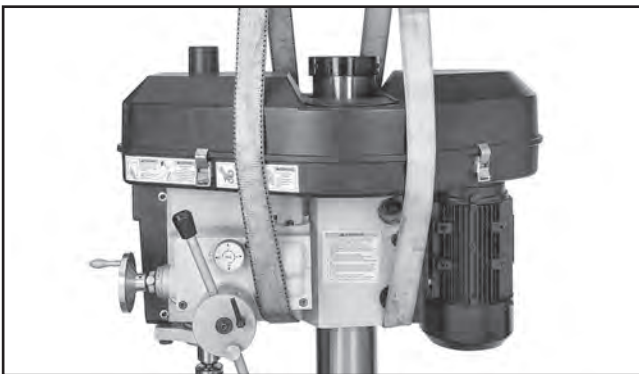

Figure 10. Lifting slings properly wrapped around headstock and positioned to avoid damage to belt cover while lifting.
2. Remove top portion of crate from the shipping pallet, place lifting slings around headstock (see **Figure 10**), and attach them securely to forklift (or other power lifting equipment).